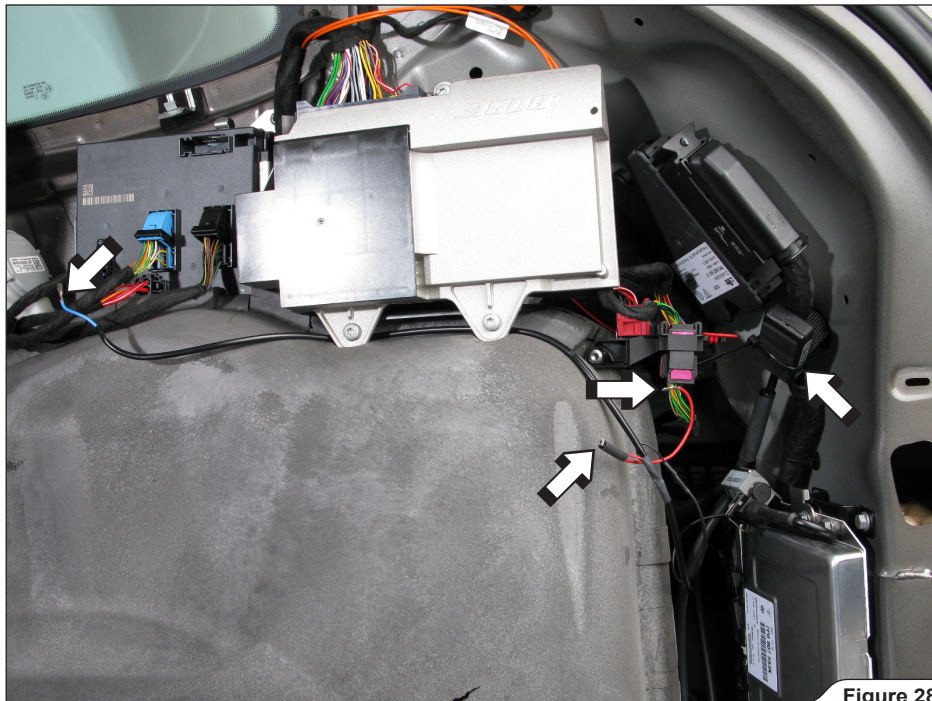

Figure 28
23. Direct the transmitter wiring harness and secure the transmitter as shown, using additional plastic tie (**Figure 28**).